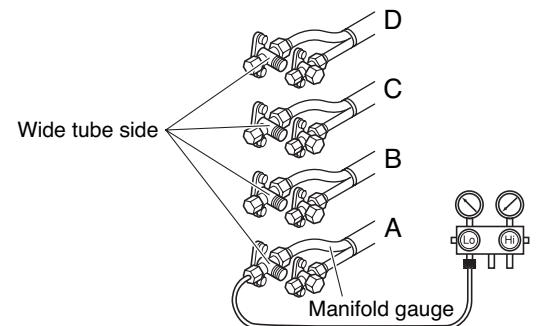

Fig. 23
- (2) Connect the manifold gauge to the charging port at the valve on the wide tube side of tube D. Purge the air from the charging hose. (Refer to Fig. 23.)
- (3) Perform cooling operation or forced cooling operation.
When the pressure at the low-pressure side is 0.15 – 0.2 MPa (0.5 – 1 kg/cm²G), fully close the spindles at the valves on the wide tube side of tubes A, B, C, and D, and immediately stop operation. (Refer to Fig. 23.)